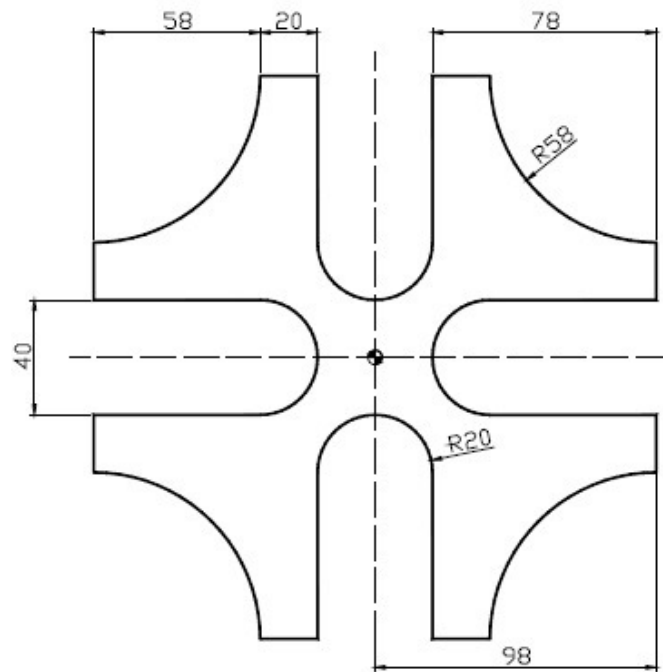

Figure 5[Q:5(a)]
- Q.5** (a) Using mirror image function prepare part program for milling operation shown in figure:5 **07**